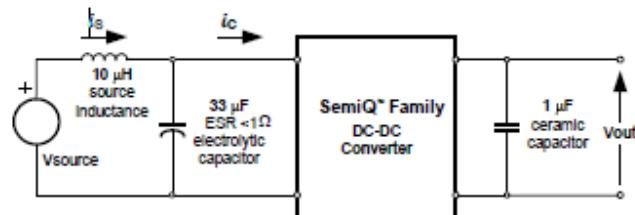

**Fig. 3.3V.14:** Test Setup for measuring input reflected ripple currents,  $i_c$  and  $i_s$
**Fig. 3.3V.1:** Available load current vs. ambient air temperature and airflow rates for SQ48T15033 converter with D height pins mounted vertically with Vin = 48V, air flowing from pin 3 to pin 1, and maximum FET temperature  $\leq 120^{\circ}\text{C}$ .
**Fig. 3.3V.3:** Available load current vs. ambient air temperature and airflow rates for SQ48S15033 converter mounted vertically with Vin = 48V, air flowing from pin 3 to pin 1, and maximum FET temperature  $\leq 120^{\circ}\text{C}$ .
**Fig. 3.3V.1:** Available load current vs. ambient air temperature and airflow rates for SQ48T15033 converter with D height pins mounted horizontally with Vin = 48V, air flowing from pin 3 to pin 1, and maximum FET temperature  $\leq 120^{\circ}\text{C}$ .
**Fig. 3.3V.4:** Available load current vs. ambient air temperature and airflow rates for SQ48S15033 converter mounted horizontally with Vin = 48V, air flowing from pin 3 to pin 1, and maximum FET temperature  $\leq 120^{\circ}\text{C}$ .
**Fig. 3.3V.5:** Efficiency vs. load current and input voltage for SQ48T/S15033 converter mounted vertically with air flowing from pin 3 to pin 1 at a rate of 300 LFM (1.5m/s) and  $T_a = 25^\circ\text{C}$ .
**Fig. 3.3V.6:** Efficiency vs. load current and ambient temperature for SQ48T/S15033 converter mounted vertically with  $V_{in} = 48\text{V}$  and air flowing from pin 3 to pin 1 at a rate of 200 LFM (1.0m/s).
**Fig. 3.3V.7:** Power dissipation vs. load current and input voltage for SQ48T/S15033 converter mounted vertically with air flowing from pin 3 to pin 1 at a rate of 300 LFM (1.5 m/s) and  $T_a = 25^\circ\text{C}$ .
**Fig. 3.3V.8:** Power dissipation vs. load current and ambient temperature for SQ48T/S15033 converter mounted vertically with  $V_{in} = 48\text{V}$  and air flowing from pin 3 to pin 1 at a rate of 200 LFM (1.0 m/s).
**Fig. 3.3V.9:** Turn-on transient at full rated load current (resistive) with no output capacitor at  $V_{in} = 48$  V, triggered via ON/OFF pin. Top trace: ON/OFF signal (5 V/div.). Bottom trace: output voltage (1 V/div.). Time scale: 2 ms/div.
**Fig. 3.3V.10:** Turn-on transient at full rated load current (resistive) plus 10,000  $\mu$ F at  $V_{in} = 48$  V, triggered via ON/OFF pin. Top trace: ON/OFF signal (5 V/div.). Bottom trace: output voltage (1 V/div.). Time scale: 2 ms/div.
**Fig. 3.3V.11:** Output voltage response to load current step-change (3.75 A – 7.5 A – 3.75 A) at  $V_{in} = 48$  V. Top trace: output voltage (100 mV/div.). Bottom trace: load current (5 A/div.). Current slew rate: 0.1 A/ $\mu$ s.  $C_o = 1 \mu$ F ceramic. Time scale: 0.2 ms/div.
**Fig. 3.3V.12:** Output voltage response to load current step-change (3.75 A – 7.5 A – 3.75 A) at  $V_{in} = 48$  V. Top trace: output voltage (100 mV/div.). Bottom trace: load current (5 A/div.). Current slew rate: 5 A/ $\mu$ s.  $C_o = 450 \mu$ F tantalum + 1  $\mu$ F ceramic. Time scale: 0.2 ms/div.
**Fig. 3.3V.13:** Output voltage ripple (20 mV/div.) at full rated load current into a resistive load with  $C_o = 10 \mu F$  tantalum + 1  $\mu F$  ceramic and  $V_{in} = 48 V$ . Time scale: 1  $\mu s$ /div.
**Fig. 3.3V.15:** Input reflected ripple current,  $i_c$  (100 mA/div.), measured at input terminals at full rated load current and  $V_{in} = 48 V$ . Refer to Fig. 3.3V.14 for test setup. Time scale: 1  $\mu s$ /div.
**Fig. 3.3V.16:** Input reflected ripple current,  $i_s$  (10 mA/div.), measured through 10  $\mu H$  at the source at full rated load current and  $V_{in} = 48 V$ . Refer to Fig. 3.3V.14 for test setup. Time scale: 1  $\mu s$ /div.
**Fig. 3.3V.17:** Output voltage vs. load current showing current limit point and converter shutdown point. Input voltage has almost no effect on current limit characteristic.
**Fig. 3.3V.18:** Load current (top trace, 20 A/div., 20 ms/div.) into a 10 mΩ short circuit during restart, at Vin = 48 V. Bottom trace (20 A/div., 1 ms/div.) is an expansion of the on-time portion of the top trace.